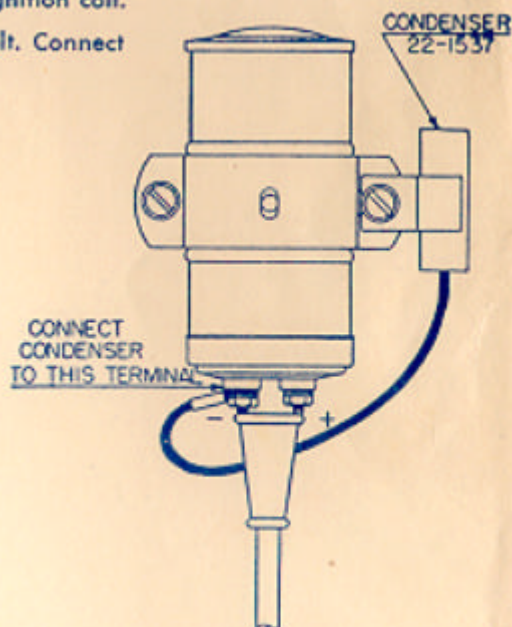

Fig. 3
10. Connect the "A" lead of the set to the battery terminal of the circuit breaker, mounted on the instrument panel brace over the steering column (Fig. 3).
3. Remove bolt on the right side of the ignition coil. Mount condenser No. 22-1537 under this bolt. Connect lead to coil terminal marked (-). (Fig. 3.)